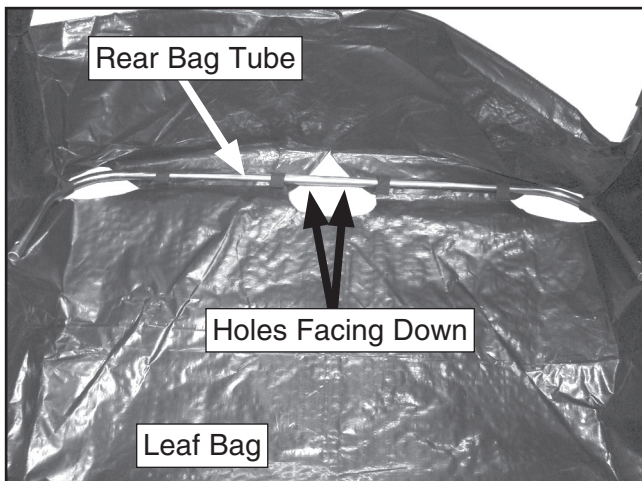

Figure 10. Rear bag tube placement.
- Insert one of the rear bag tubes through the loops in the leaf bag. Make sure the holes in the tube are facing down, as shown in **Figure 10**.